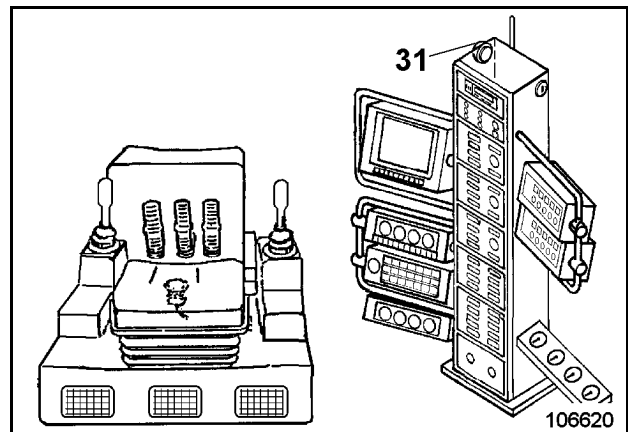

Fig. 2-23:
- in the control column in the driver's cab (31, Fig. 2-23;) and